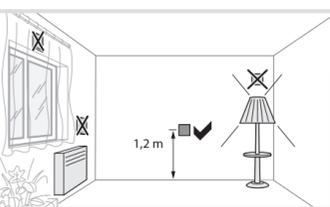

Fig 7: Installation location of the motion detectors
- Avoid sources of interference in the detection area (Fig. 4). Sources of interference, e.g. heating elements, ventilation systems, air conditioners and lamps that are cooling down can cause undesired switching (Fig. 7).